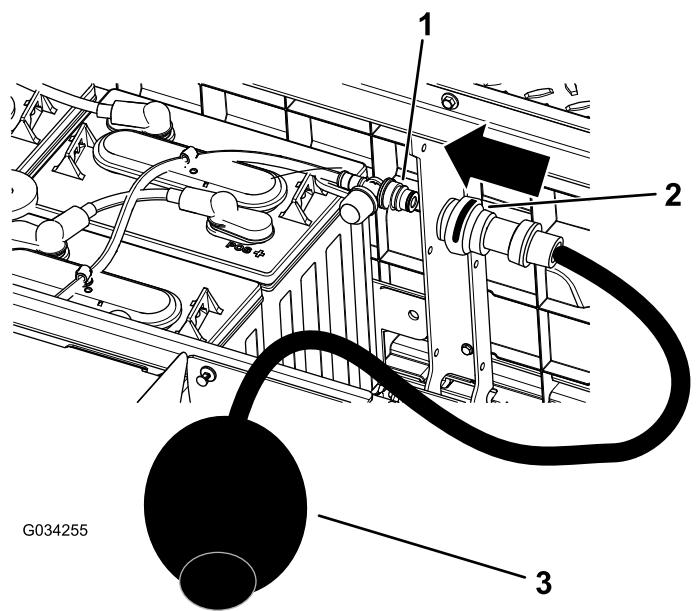

Figure 39
4. Connect your Toro water hand pump to the water-fill port (Figure 39).